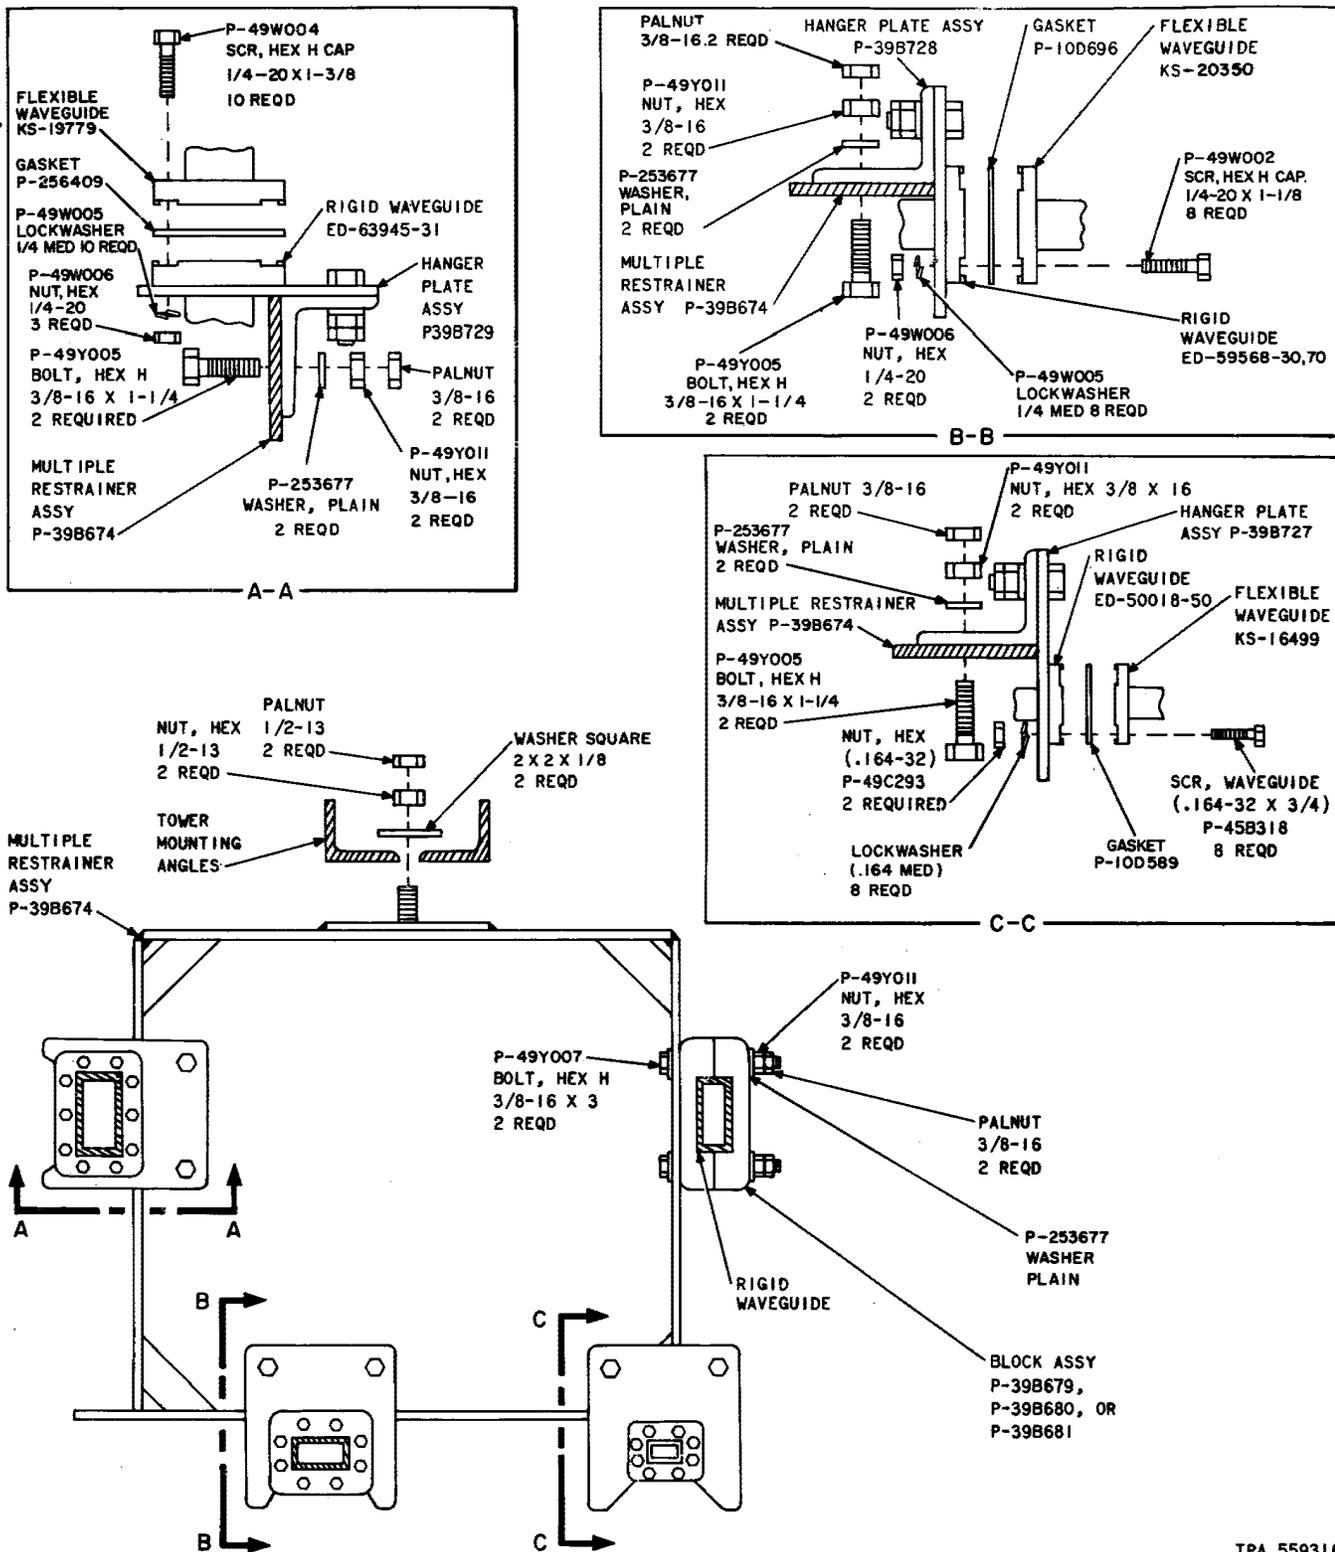

Fig. 1—Installation of Multiple Restrainer
- 2.05** Attach the required hanger plates to the multiple restrainers as shown in Fig. 1, using the bolts, washers, nuts, and palnuts supplied with the hanger plates. The hanger plate for any of the three systems may be installed in any one of eight positions. In the case of 4- and 6-GHz systems, the hanger plate should be located as close as possible to the zone in which the network tap has been positioned. For the 11-GHz system, the hanger plates should be installed in the available positions which have not been used for the 4- and 6-GHz waveguides.
2.07 Restrain the filter and waveguide assembly to a multiple restrainer using the block assemblies as shown in Fig. 1. Use the bolts,
2.09 After forming a smooth S shape with the flexible waveguide, mate the bottom flange of the flexible waveguide with the top flange of the rigid rectangular waveguide. Attach both flanges to the hanger plate, as shown in Fig. 1, using the bolts, lockwashers, and nuts supplied with the waveguide.